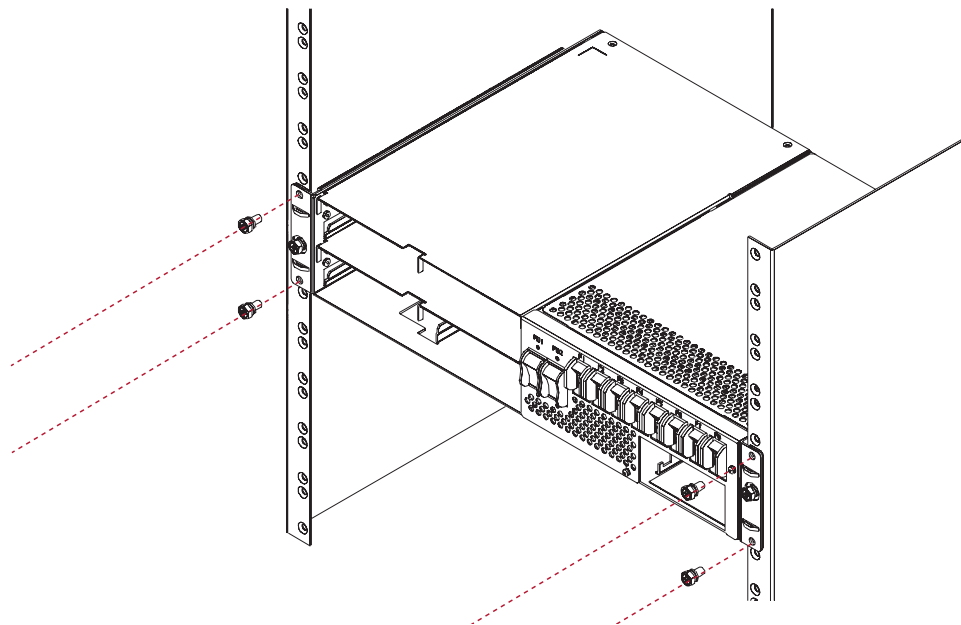

Figure 4-3 System Bracket Fixing
4. Then fasten the subrack, either with adjustable or fixed brackets, to the cabinet with four M6 x 12mm (2 on each side of the subrack). Tighten the screws to 6Nm, Figure 4-3.